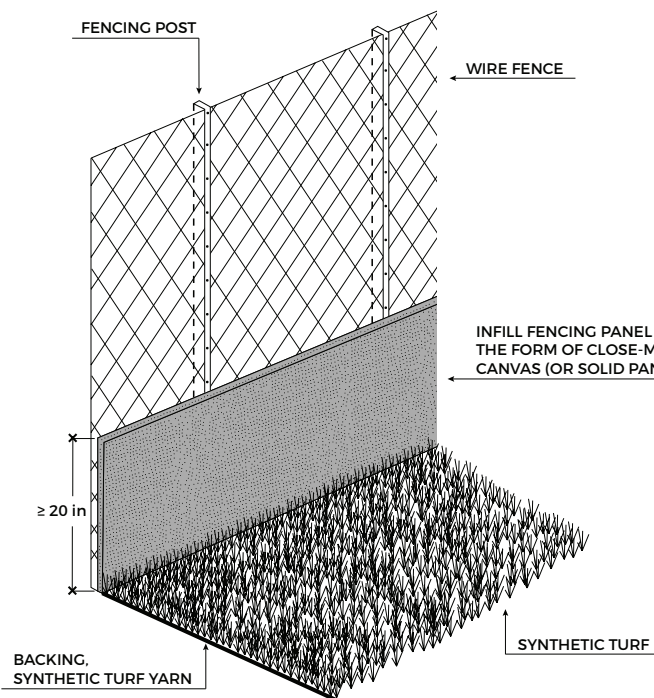

Figure 2a = Fence with infill fencing panel (solution with synthetic turf all the way out to the fence)
- To keep granules on the field, a solid barrier / infill fencing panel, at least 20 inches in height, should be mounted all along the perimeter of the field (cf. Figures 2a + 2b). Oftentimes, advertising boards that are about 3 ft in height will be used for this purpose.